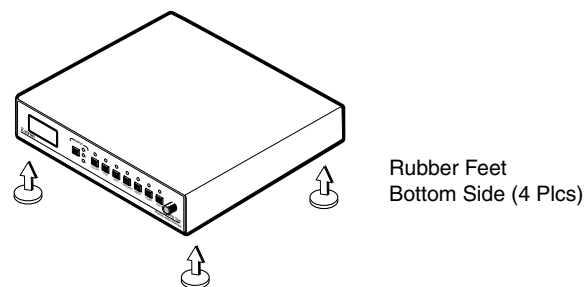

Figure 4 — Installing the rubber feet
3. Place the rubber foot on one corner of the scaler as shown in figure 4, and press it into place.